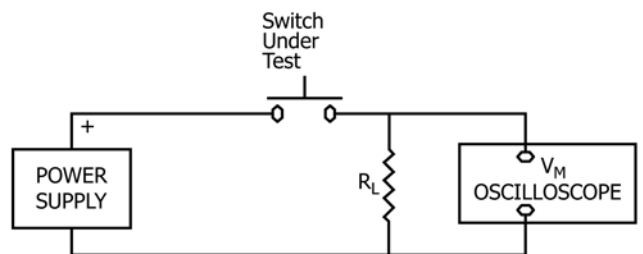

FIG. 5 Test Setup Option
7.1.4 Connect switch terminals as shown in Fig. 5 so that: